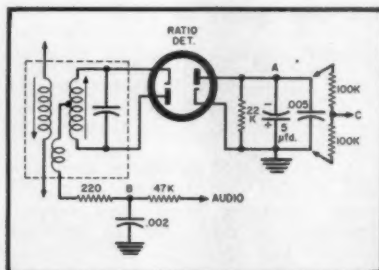

Fig. 1. Conventional TV ratio detector.
Let us give this matter a little thought. What do we use the jig for anyway? Fig. 1 shows a pair of 100,000-ohm resistors ready to be clipped across the ratio detector load. When they have been clipped on, we are instructed to connect a v.t.v.m. between points B and C and then adjust the ratio-detector secondary slug for zero volts on the meter.
6. Note the voltage obtained after adjustment in the preceding step. Next transfer the meter's d.c. probe to the center tap of the ratio-detector transformer—or any point connected to this center tap. This will be the already mentioned point B of Fig. 1. Now adjust the transformer secondary for *exactly half the voltage you obtained in the last step*. For accuracy, you may wish to repeat steps 5 and 6.
of measuring impedance is, of course, with an impedance bridge which will indicate the resistance and reactance of the loudspeaker. In the absence of such a bridge, however, the magnitude of the impedance can be determined very simply by the voltage comparison method. The schematic of the test method is shown in Fig. 1. The maximum value of R is not critical as long as it is about ten times the nominal impedance of the loudspeaker. It is convenient to place a knob and scale on R and calibrate the scale in ohms with an ohmmeter. An audio tone of 400 cps from a test record or audio oscillator is then fed into the amplifier and the gain adjusted until a convenient deflection is obtained on the voltmeter (about three-quarters scale) with switch S in position 1. S is then